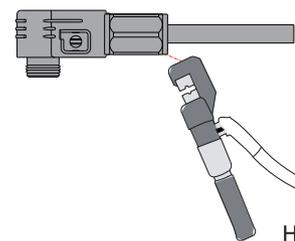

Figure 4.2-5 Crimp the metal terminal
**Step3:** Crimp the metal terminal, as shown in Figure 4.2-5.